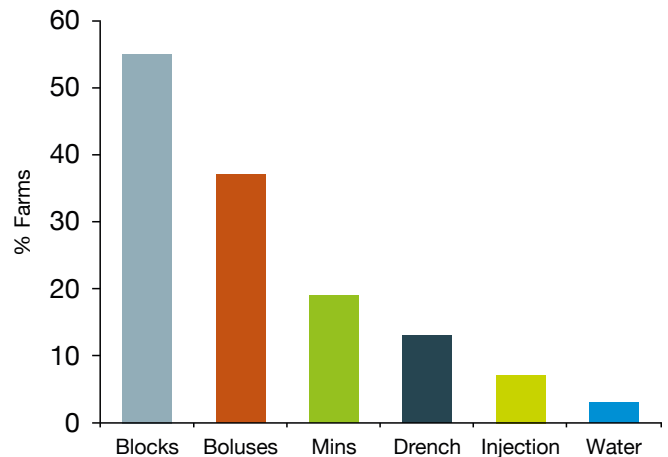

Figure 33. Supplementary sources of minerals in addition to that in the concentrates or TMR on 50 dairy farms
- On average, cows are fed minerals **well above requirements** (Figure. 33)